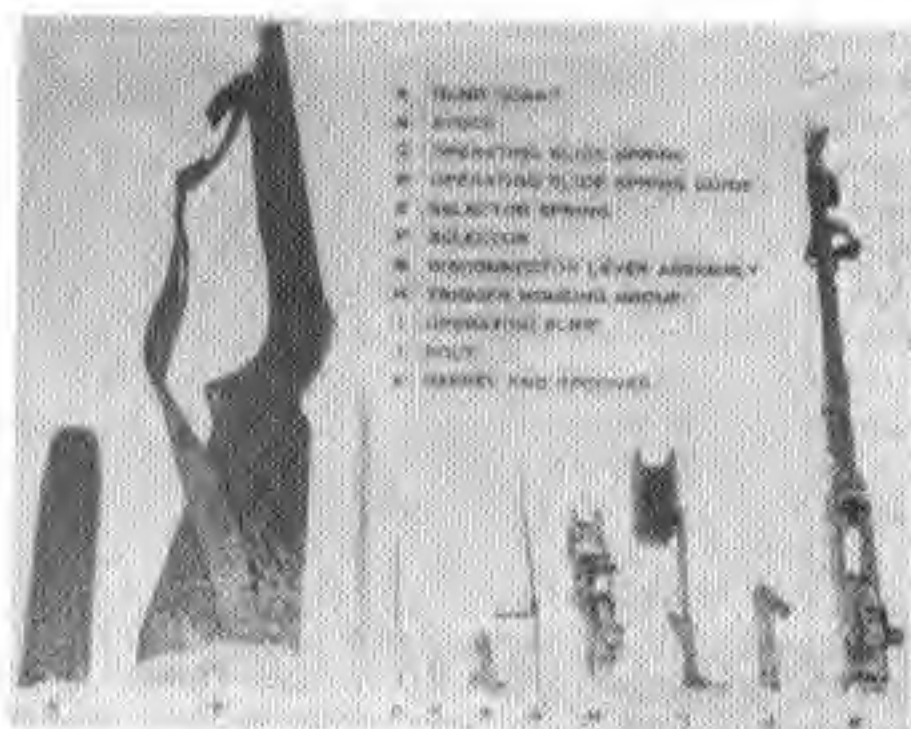

Figure 14. Lay out of parts disassembled during field stripping.
l. In Figure 14, you see the disassembled parts of the carbine laid out in the correct order.